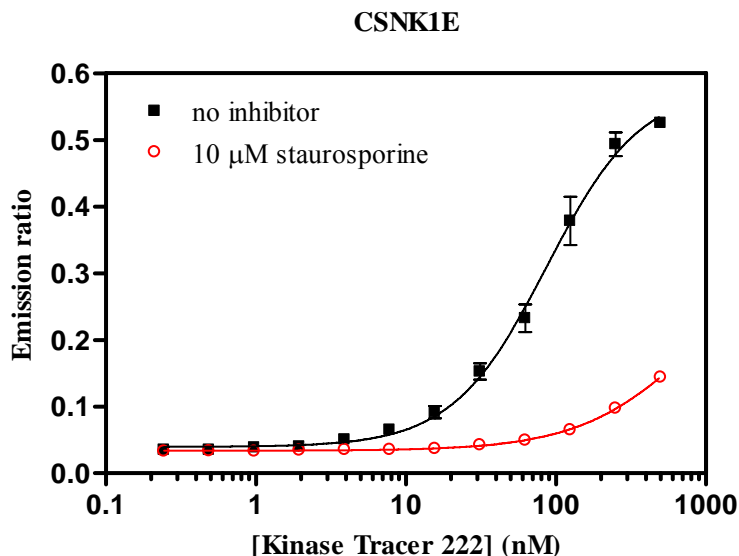

Figure 4. Tracer titration curve.
2. Plot [tracer] versus emission ratio for the competitor (PP2) and control (DMSO only) (Figure 4). The sigmoidal dose-response curve with a variable slope can be fit to the data (optional). The following equation can be used with GraphPad™ Prism software: